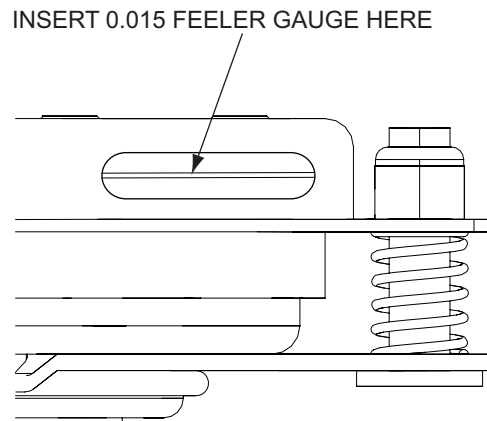

Figure 6-12. Clutch Air Gap Adjustment
3. Tighten or loosen the adjusting bolt as needed to achieve the 0.015 inch airgap. See Figure 6-12. Perform this operation at all three inspection windows